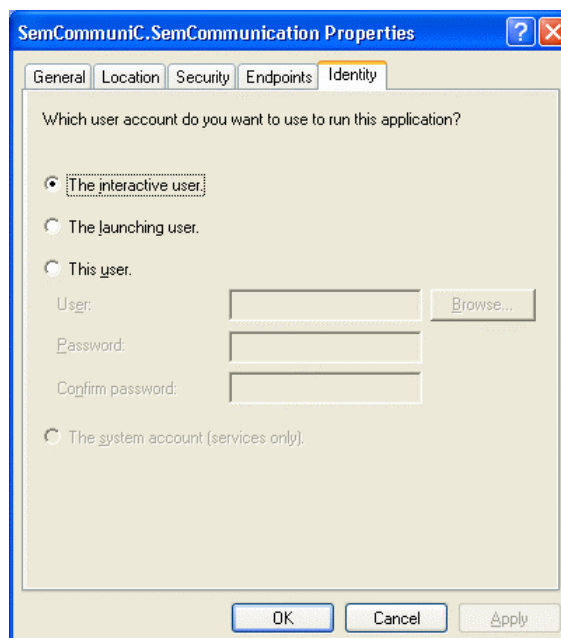

Fig. 6.3-38 Properties Window
33. Choose **Identity** Tab and confirm the setting as shown in **Fig. 6.3-38**.